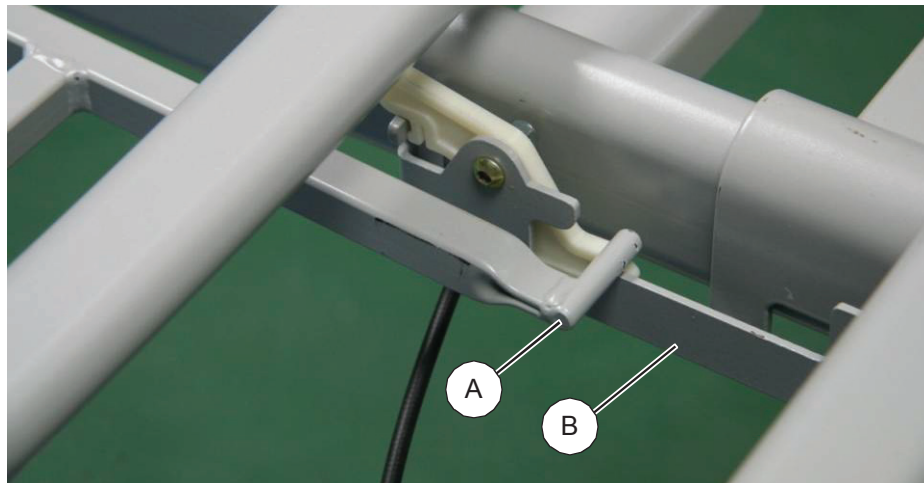

Figure 25: Location of calf section stay
- 26.2.6 * Refer to Figure 25. Manually lower the calf section to a horizontal position; make sure the calf section stay (A) engages the runners (B) on the sub-frame.